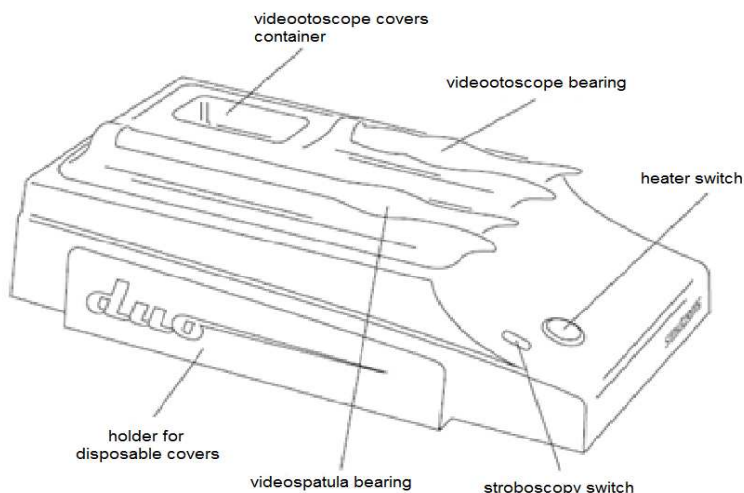

Fig. 1 Front side of base duo
2. Place the videospatula/videotoscope in the base bearing (Fig.1) for charging.
To prevent the optical elements from fogging heat up the videospatula before each examination. To do this (after placing the disposable cover on the videospatula – see section 13.3) press the heat up button (Fig. 1) directly before the examination. It is recommended that the videospatula was placed with the camera facing down. The red colour of the LED diode and a sound signal indicate that the stream of hot air has begun the heating process. The process lasts for about 45 seconds, and it is completed when the LED diode goes green and a sound signal is emitted. To prevent accidental over-heating of the device, restart the heating no sooner than after 45 seconds until the LED diode will have turned off. The device will not react if the button is pressed before this time has passed.
STROBE ON/OFF by the back part of the videospatula (Fig. 1). A correct launch of the stroboscopy mode is signalled by the pulsating of the green LED diode. During examination of vocal cords, the LED lighting in the camera will automatically switch to the stroboscopy mode upon detecting the patient's voice. If the indicated place on the base is touched again by the back part of the videospatula, the device will return to the basic mode – stroboscopy will be turned off.